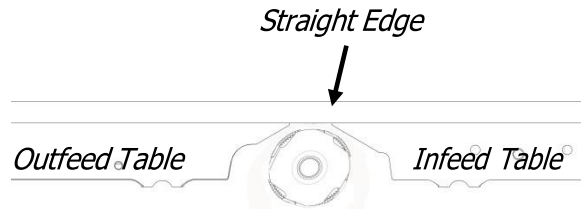

Figure 27: Straight Edge
**STEP 2:** Place straight edge across infeed and outfeed tables as in **FIG. 27**. If inserts interfere with straight edge, rotate the cutterhead.